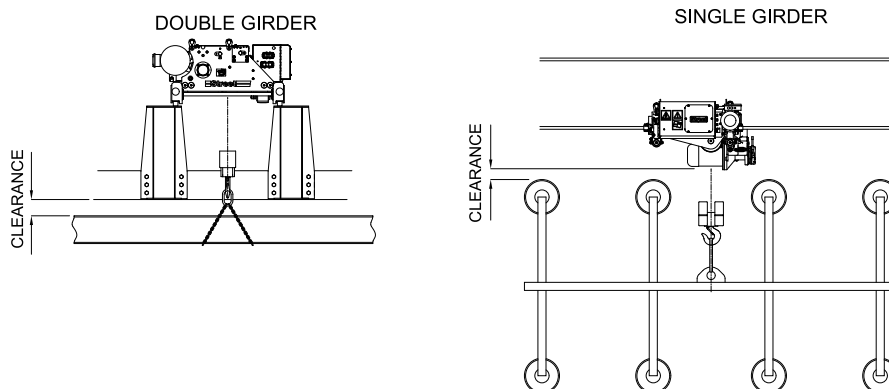

Figure 28 – Clearances to consider when lifting
18. Ensure that adequate clearance is maintained between the load or lifting attachment and the hoist or crane structure. See Figure 28.